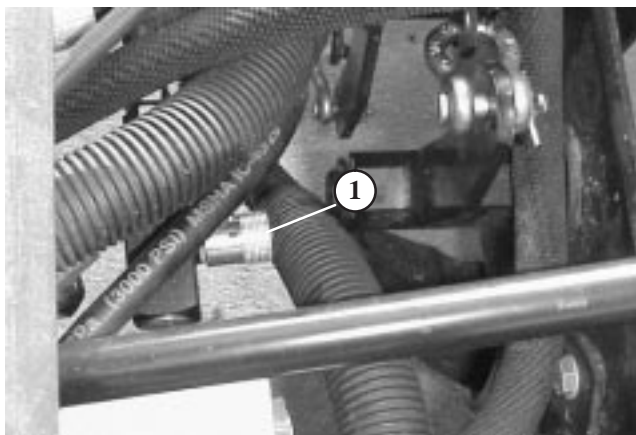

Figure 64
1. Locate valve on flow divider (under foot rest) (Fig. 64).